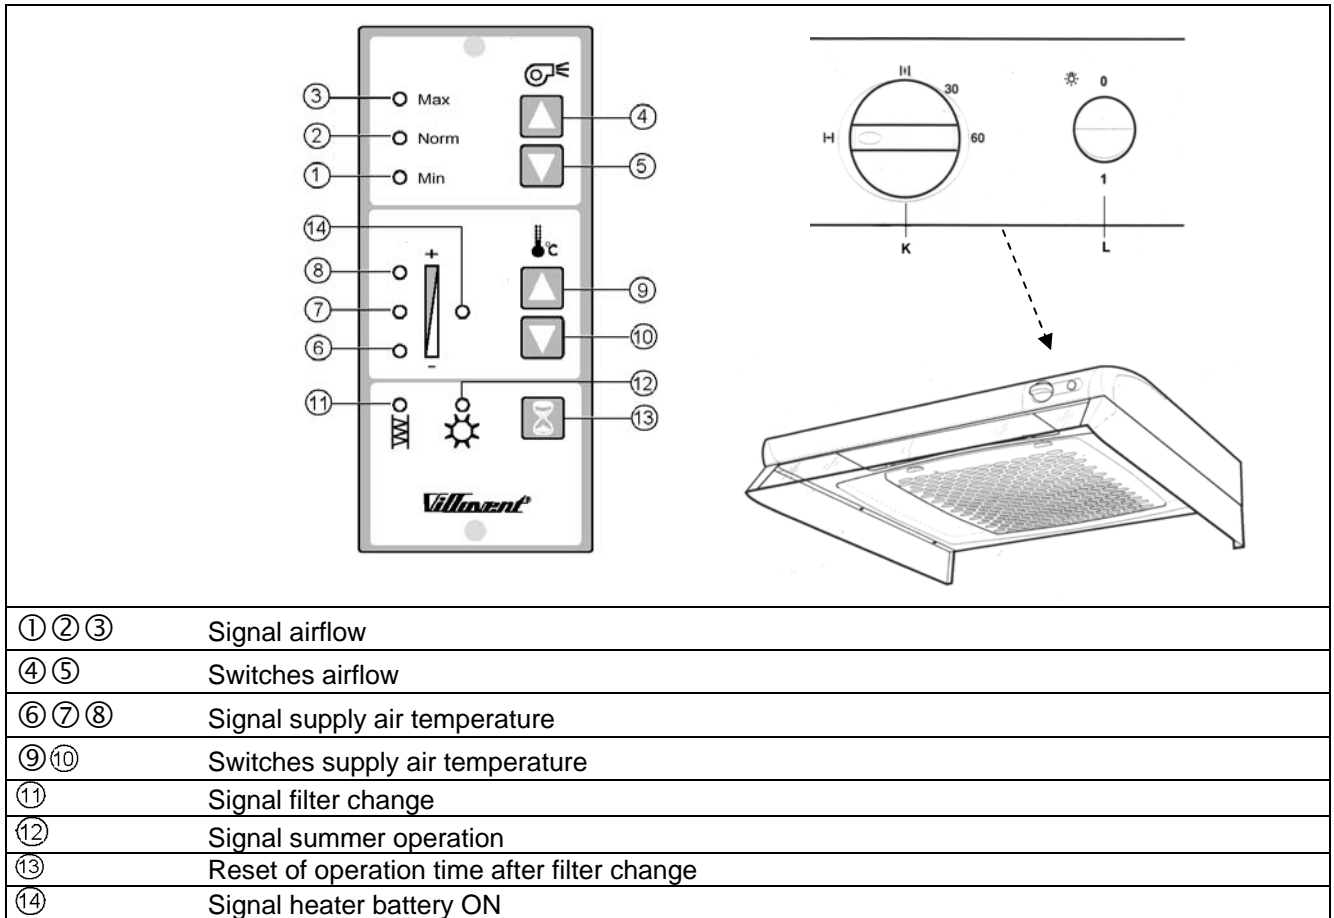

Fig. 2
Buttons to increase or decrease airflow in 3 steps (4) and (5) (**fig.2**). Lamp signals (1), (2) and (3) show set airflow.
Buttons to increase or decrease inlet air temperature in 5 steps (**fig.2**). Supply air temperature is increased/de-creased by pressing buttons (9) and (10) alternatively. Lamp signals (6), (7) and (8) show set supply air temperature.
- Step 1 Lamp (6) lights (factory setting).
- Step 2 Lamp (6) and (7) light.
- Step 3 Lamp (7) lights
- Step 4 Lamp (7) and (8) light
- Step 5 Lamp (8) lights
When supply air temperature exceeds set temperature, the rotor will stop and there will be no heat recovery (summer operation). If the extract air temperature becomes lower than the outdoor temperature (for example: if the building has cooling/air conditioning installed), the unit will automatically switch to recovery (of the chilled indoor air). The extract air will then cool down the inlet air in the exchanger. Lamp 12, (**fig. 2**) lights when the rotor is not in operation.
During forced ventilation from the cooker (when cooking) the damper in the cooker hood is opened from switch K, **(fig.2)**. At the same time the fans will automatically change to MAX fan speed. Extract from the cooker is led directly through the extract fan, and not through the heat exchanger. The capacity of the extract fan is then primarily used for extract from the cooker, but a minor airflow is maintained through the extract louvers. The opening time for the cooker hood damper can be set from 5 to 60 minutes. The damper closes automatically according to chosen time, or manually by turning switch K to **H**. The bypass damper in the unit will close automatically and the extract fan will switch to normal ventilation (NORM).
Operation time between filter changes must be re-set after filter change. Press button 13 (**fig. 2**) for approx. 5 seconds. Yellow lamp (14) and one of the green lamps (6, 7 or 8, depending on chosen operation time) will flash for a few seconds.